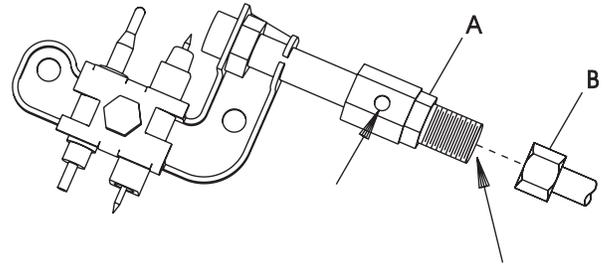

Figure 6
Oxygen Depletion Sensor Pilot (Figure 6)
2. Apply air pressure through the holes in the pilot indicated by the arrows in Figure 6. This will blow out foreign materials such as dust, lint and spider webs.
- c. Pilot is blocked from spider web or dirt - clean pilot, see Figure 6.
- d. Pilot flame not surrounding thermocouple - clean pilot, see Figure 6.
- a. Pilot is blocked - clean pilot, see Figure 6.
5. Disconnect pilot tubing from pilot (see Figure 6, Sect 1:25). Grasp nut A with a wrench when removing nut B with a second wrench.